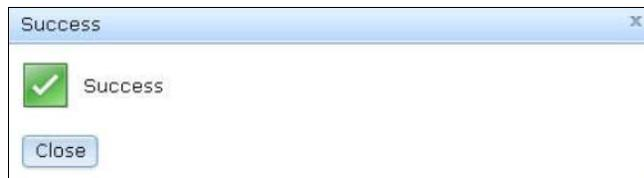

Figure 5-36 FoD successfully enabled
5. A pop-up window (Figure 5-36) confirms that the activation key was added successfully.